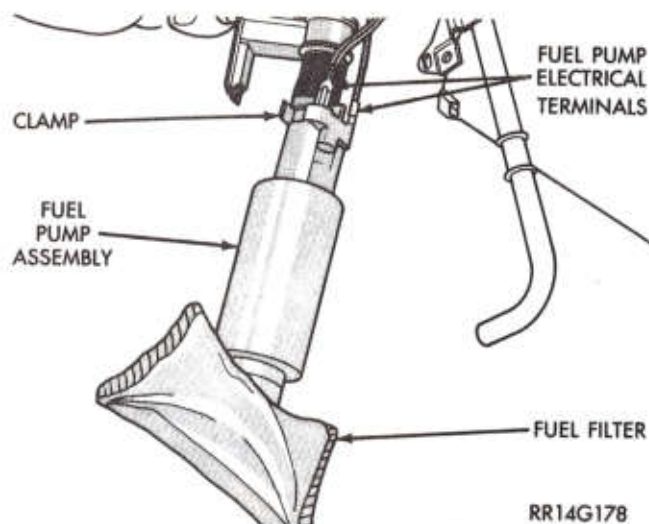

Fig. 9—Servicing Fuel Pump
(6) Remove pump mounting bracket and rubber collar from hose and retain. Cut hose clamp on the supply line to the pump. Discard clamp. Remove pump/filter assembly from hose (Fig. 9)
(1) Press new filter onto pump. (New pumps are provided with new filters.)
(2) Use a new clamp to attach the pump to the supply hose. Use Tool C-4124 to crimp clamp.
(3) Reposition pump mounting bracket and rubber collar on supply hose between the bulge in the hose and the pump. (Fig. 9).